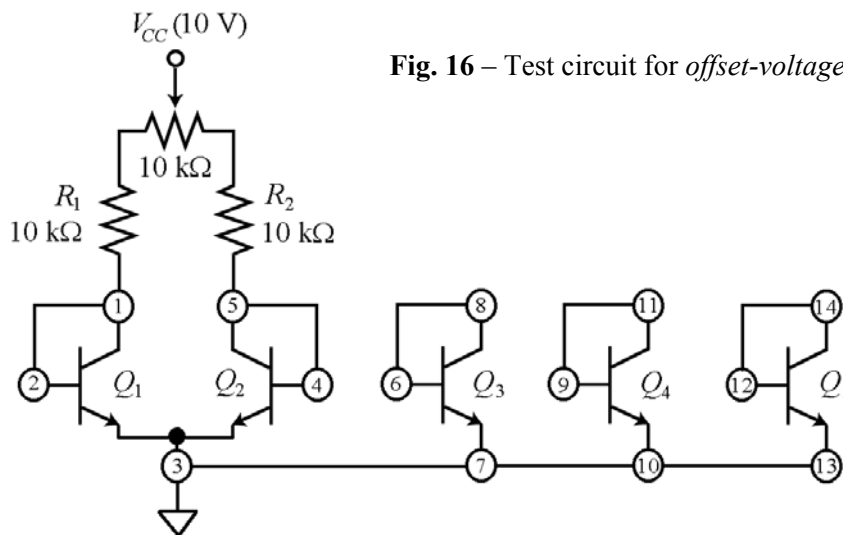

Fig. 16 – Test circuit for *offset-voltage* measurements.
To ensure *identical* collector currents, we connect two 10-k Ω resistors and a 10-k Ω potentiometer in the manner of Fig. 16, and adjust the wiper so as to ensure *equal* resistances (nominally 15 k Ω) from the wiper to the bottom terminals of R_1 and R_2 (make this adjustment with the ohmmeter *before* actually inserting the resistances in your circuit!).
MC8: After the resistance adjustment just described, assemble the circuit of Fig. 16 with power off. Next, apply power and find V_{OS21} as the voltage difference between Pin #4 and Pin #2, and find I_{S2} via Eq. (19).